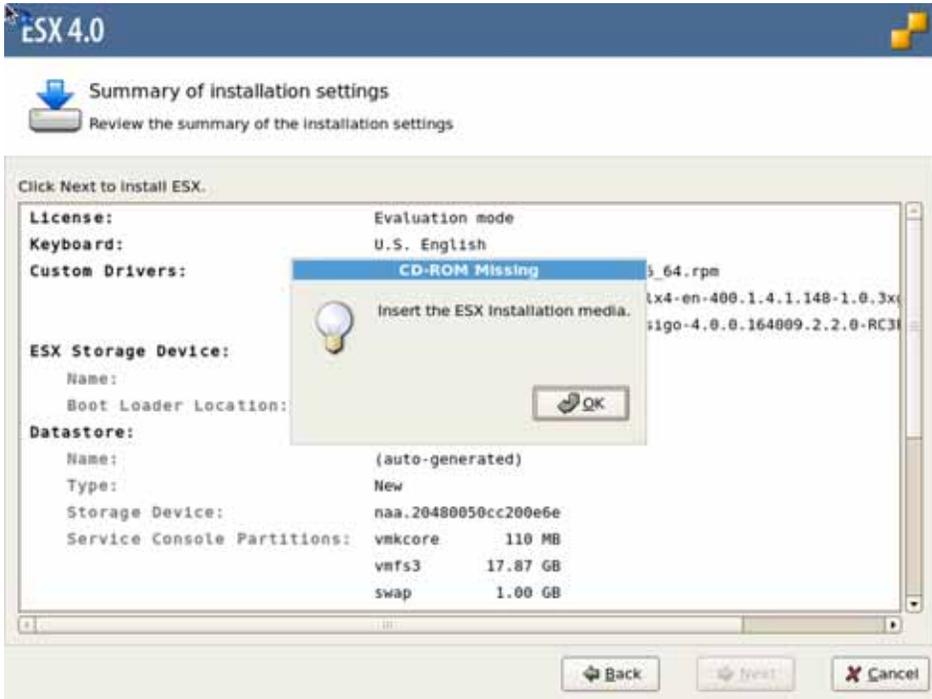

Figure 24 ESX Installer — Insert the Installation Medium
Step 21 Reconnect to the ESX Installer (or re-insert the physical medium if you are installing from DVD). If you see the popup shown in Figure 24 on page 53, you must reconnect to (or re-insert) the ESX installer DVD.